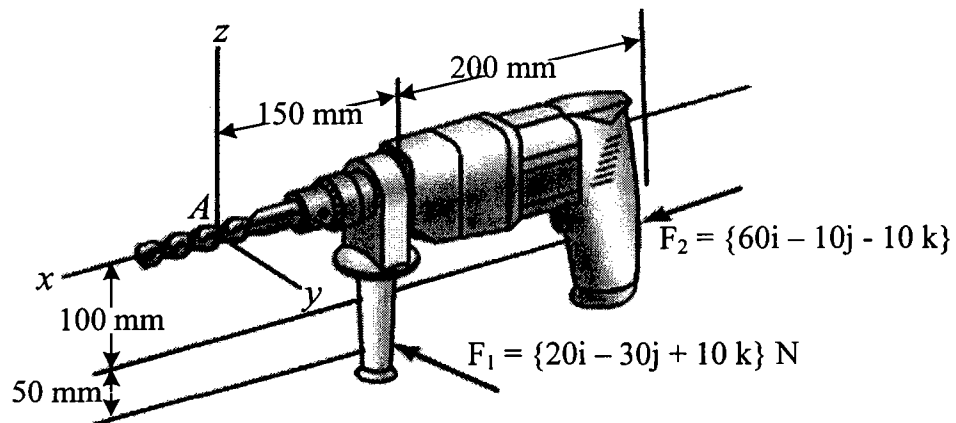

Figure Q2[a]
- Q2. [a] The power drill in Figure Q2[a] is subjected to two forces F_1 and F_2 which act on the grips. Determine the x, y, z components of force and the y and z components of moment reaction acting on the drill bit at A .